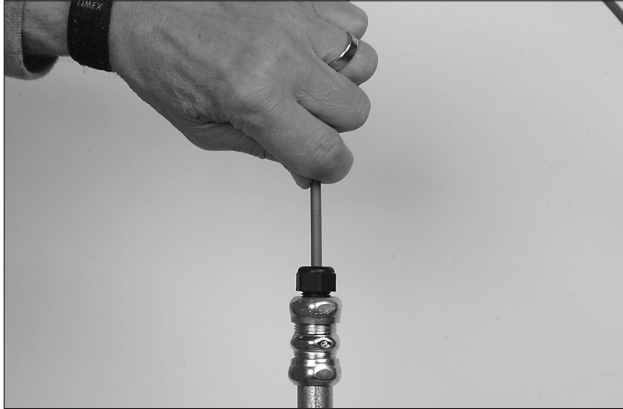

FIGURE 4-66
10. Push flexible conduit completely through conduit offset. Flexible conduit should stop flush or +/- 1/2 in. (12.7 mm) from bottom of conduit of conduit fitting in PYRO-CHEM control head. See Figure 4-66.